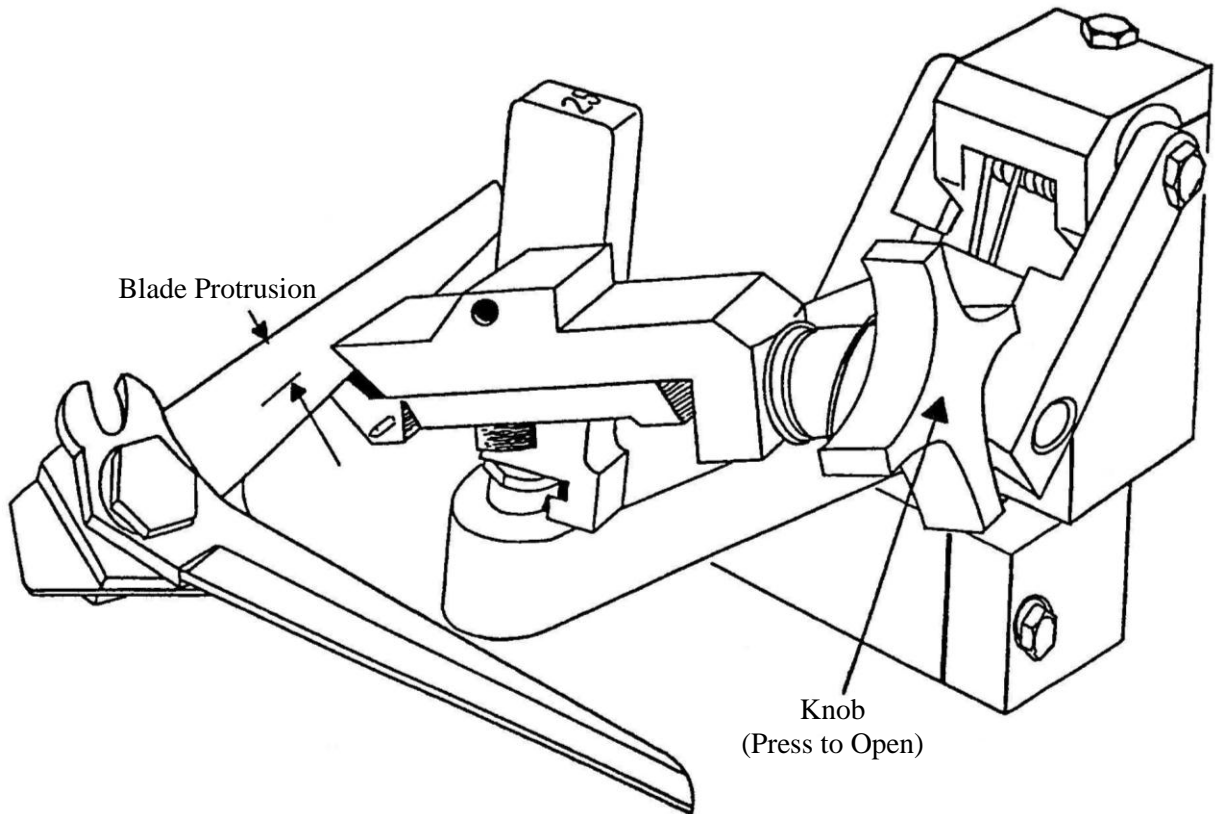

Figure 11A
The clamp is opened by loosening and pressing in on the knob. Center the scissors blade in the clamp as shown in Figure 11A. Most scissors, including Airshirz®, can be clamped in the first notch (A). Larger and wider scissors and shears blades may have to be inserted fully into the clamp to (B) to fit under the grind guide for grinding.
8.4.4 Clamping The Blade - Continued (See Figure 11A)